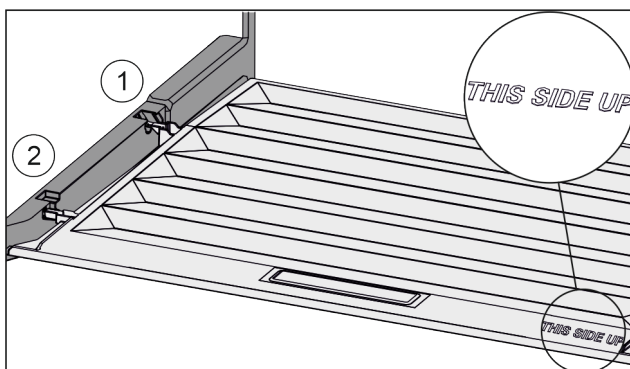

Fig. 28
- Insert the lip of the cover over the opening of the rear bracket Fig. 28 (1) and click into place Fig. 28 (2).